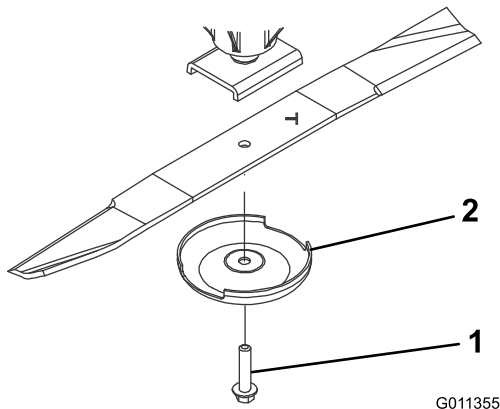

Figure 83
- Remove the blade bolt, anti-scalp cup, and blade from the spindle shaft (Figure 83).